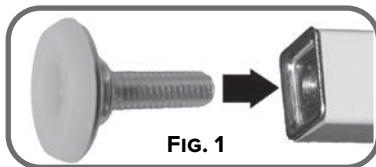

FIG. 1
1. Place chair on side and install **four (4) Glide Feet** in threaded holes on the bottom of the **Chair Frame (FIG. 1 & 2)**.